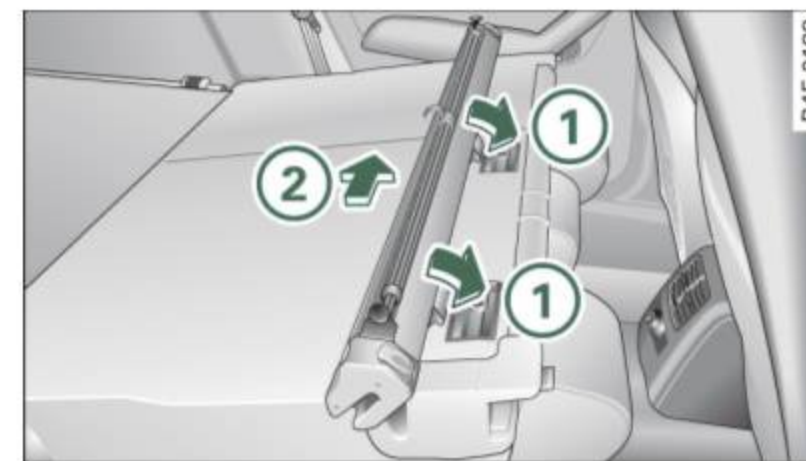

Fig. 84 Installing the partition net on the seatback
- Affix the partition net to the recesses on the retaining rails ⇒ *page 81*, fig. 84 ①.
- Slide it towards the left side of the vehicle until it latches ②.
- Pull the partition net out about 5 cm to the right side of the vehicle ⇒ *page 81*, fig. 84 and lift it out of the holding tracks.